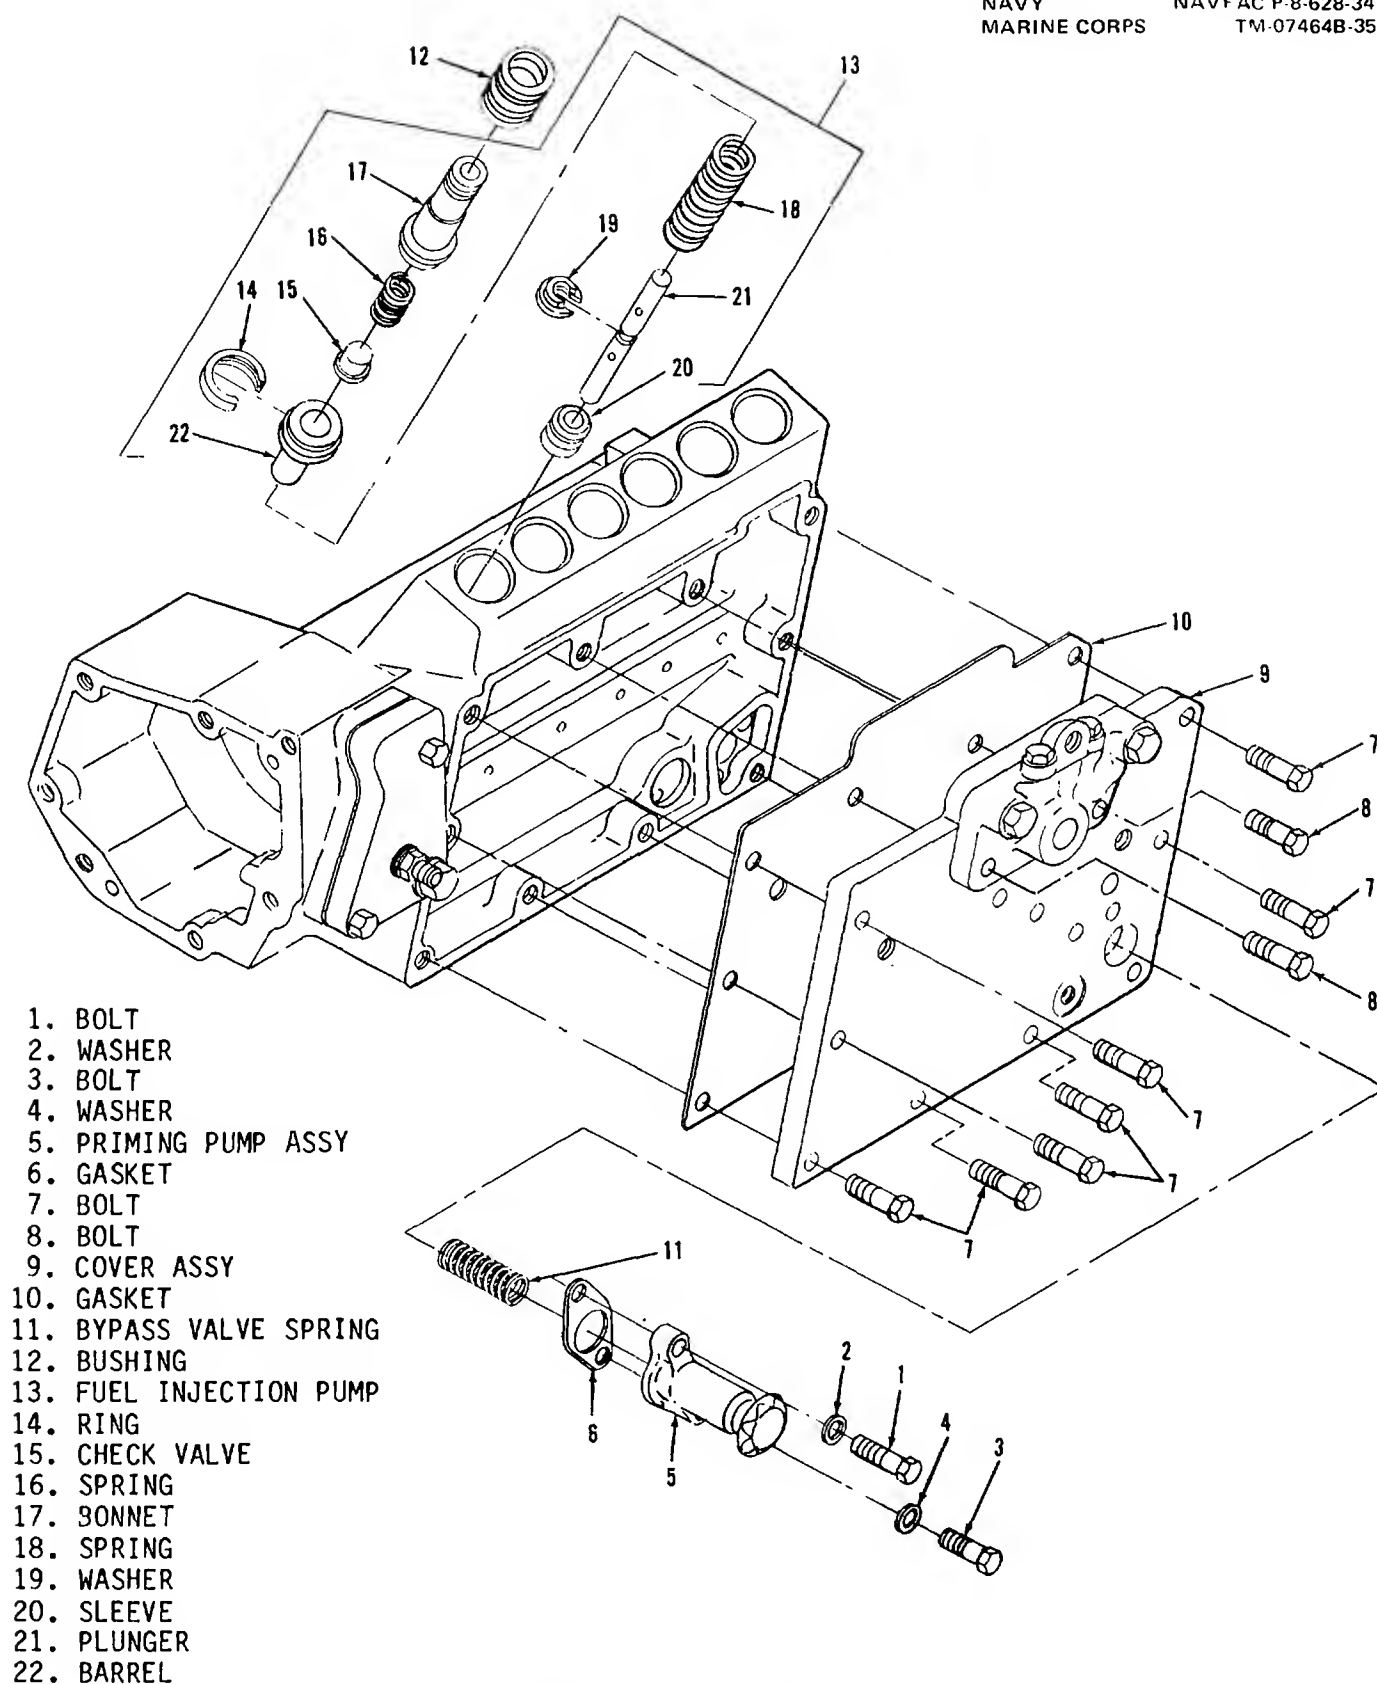
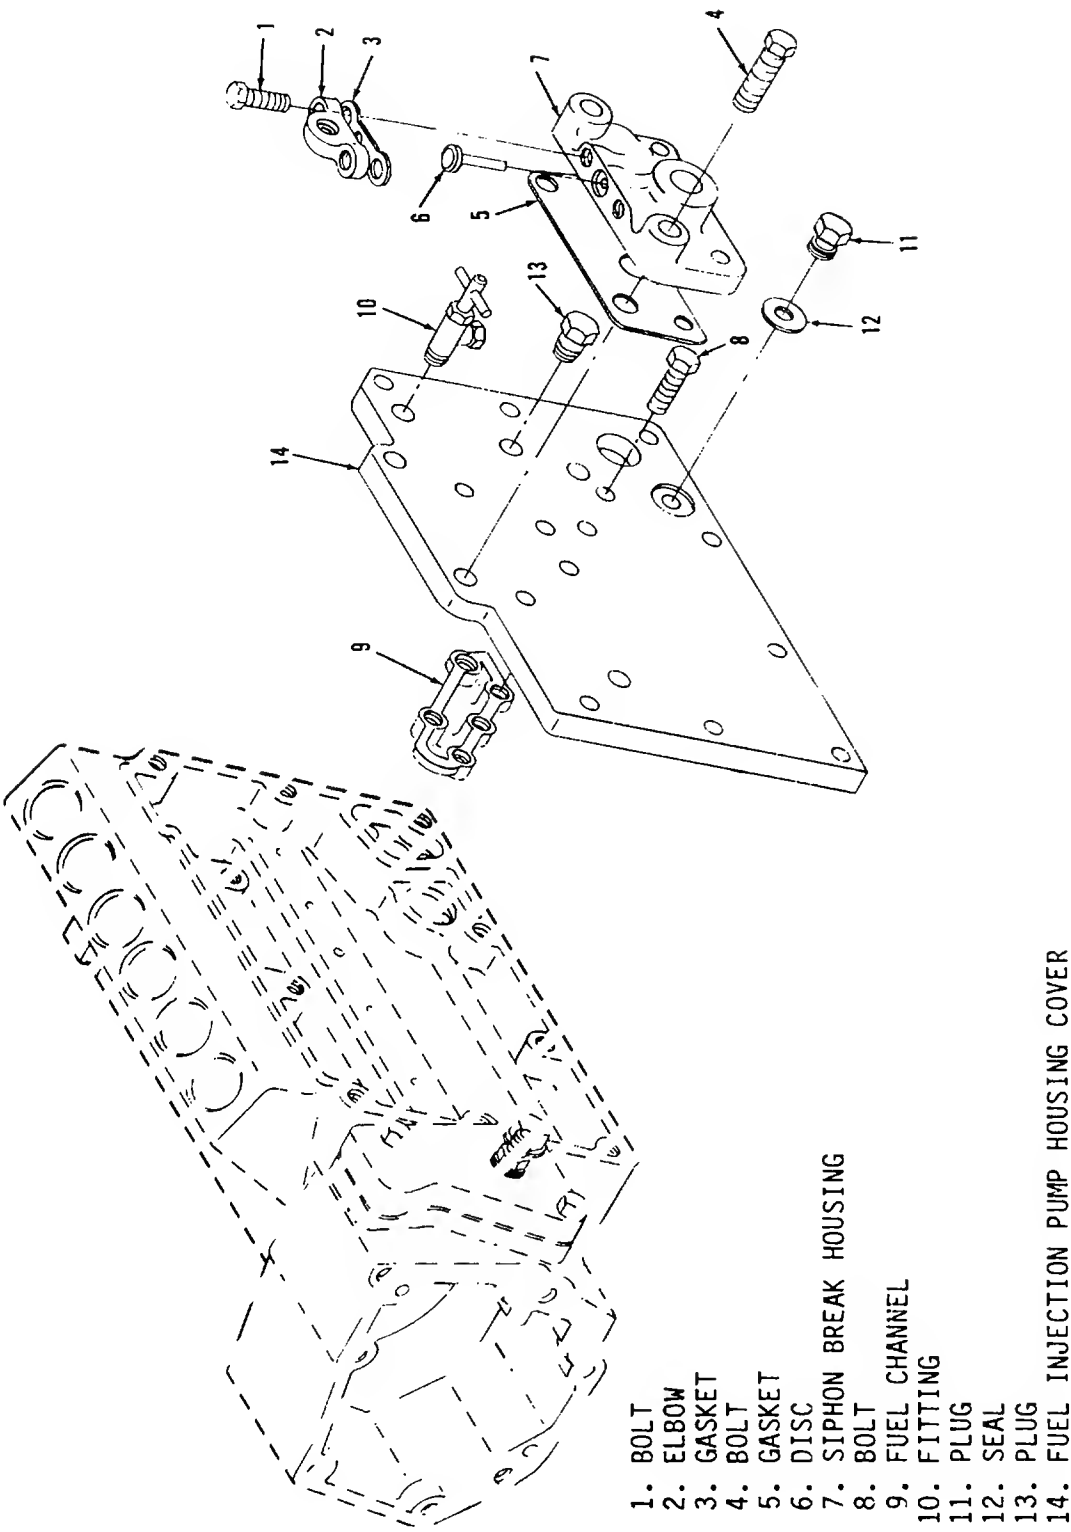
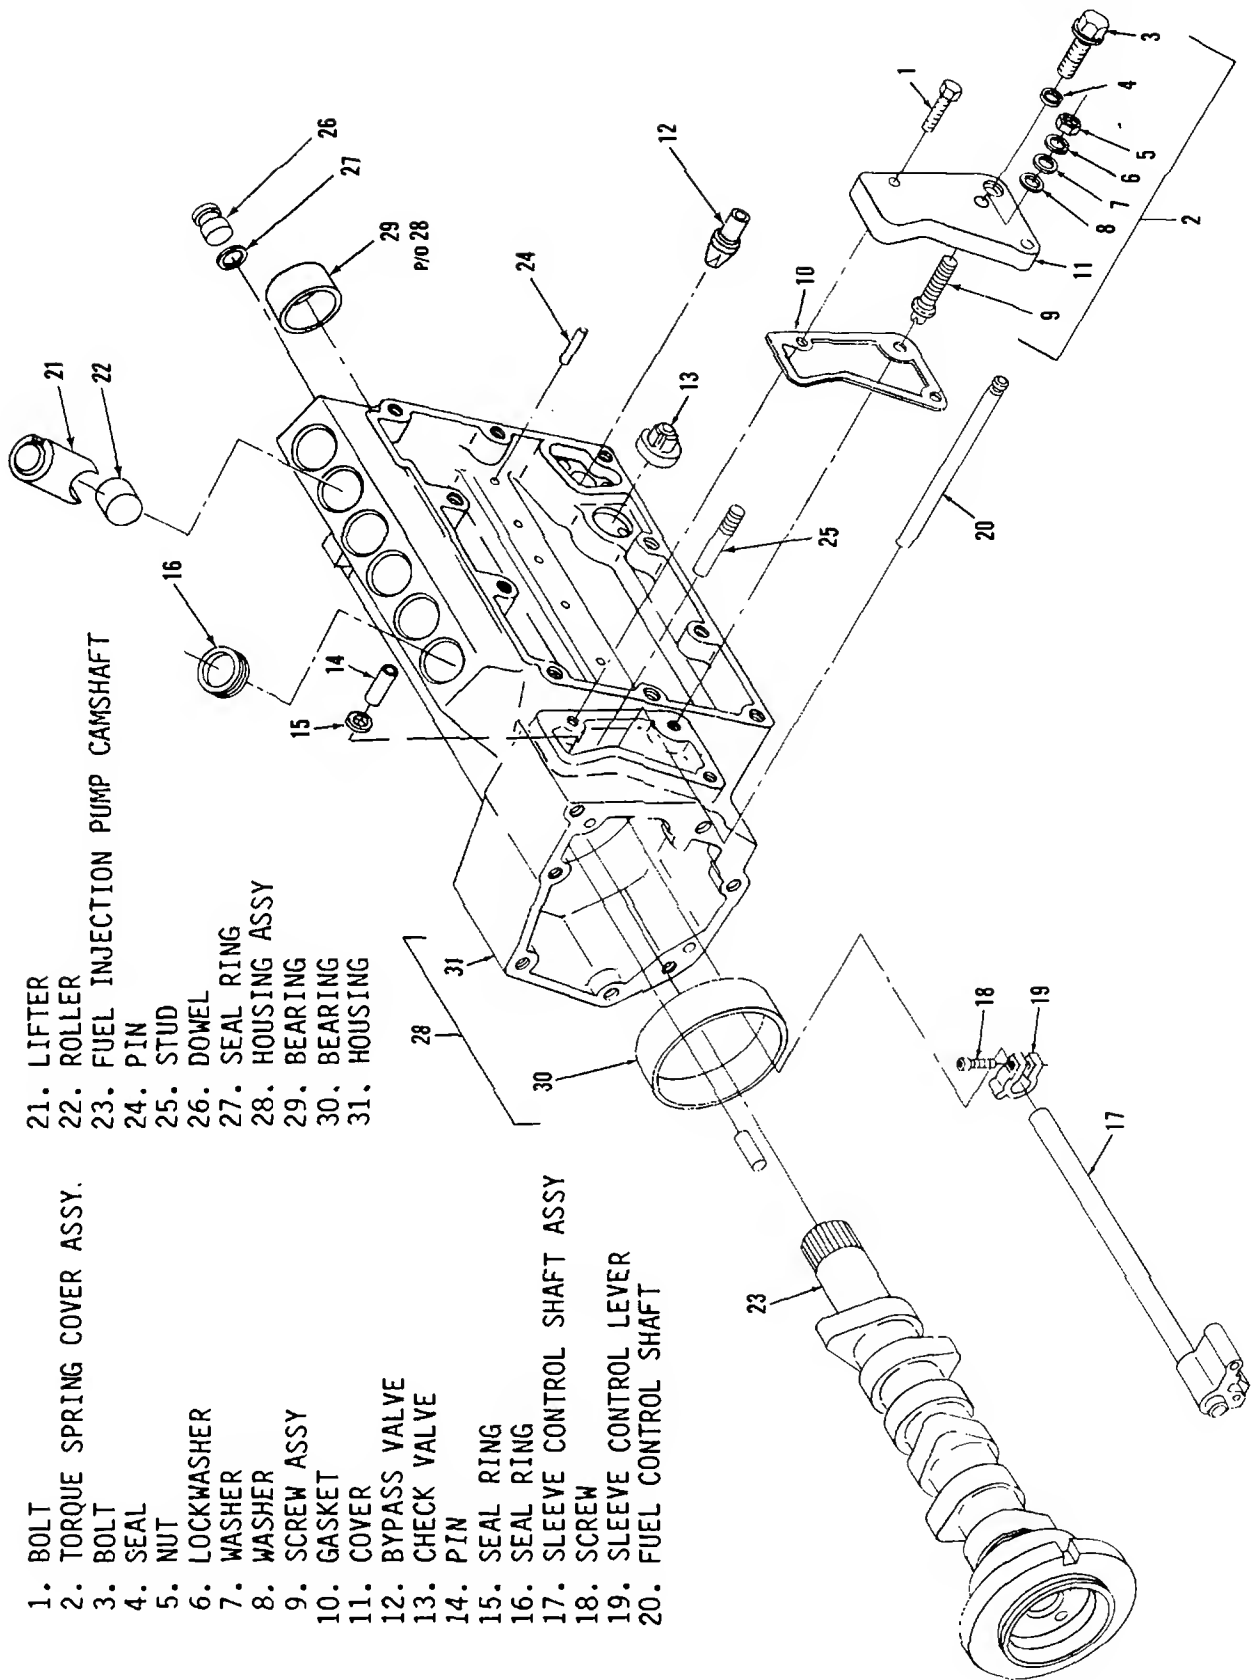

Figure 7-4. Removal and Disassembly of Fuel Injection Pumps
Figure 7-6. Fuel Injection Pump Housing Cover, Disassembly and Assembly
Figure 7-7. Fuel Injection Pump Housing, Disassembly and Assembly
a. Remove bolts (1 and 3, figure 7-4) and washers (2 and 4) to remove priming pump assembly (5) and gasket (6).
c. Remove cover assembly (9) and gasket (10).
d. Remove bypass valve spring (11).
d. Disassemble cover assembly (9, figure 7-4) as follows (see figure 7-6):
(1) Remove bolts (1), elbow (2), gasket (3), and gasket (5).
(2) Remove bolts (4) which secure the siphon break housing (7). Remove the gasket (5) from the housing (7).
(3) Remove bolts (8) to remove fuel channel (9).
(4) Remove fitting (10), plug (11), seal (12), and plug (13) from the fuel injection pump housing cover (14).
e. Refer to figure 7-7 and remove bolts (1) to remove torque spring cover assembly (2).
f. Remove bolt (3) and seal (4).
g. Remove nut (5), lockwasher (6), washers (7 and 8), screw assembly (9), and gasket (10) from torque spring cover (11).
h. Remove bypass valve (12) and check valve (13).
i. Remove pin (14) and seal rings (15 and 16).
j. Remove shaft (20).
k. Loosen screws (18) to free the levers (19) from the sleeve control shaft assembly (17). Remove sleeve control shaft assembly (17).
l. Remove screws (18) and levers (19).
- e. Install rollers (22) and lifters (21) into respective bores in housing assembly (28). Ensure that grooves in lifters align with pins (24) in housing assembly (28). Support camshaft (23) to prevent damage to pins (24) and bearings (29 and 30).
- f. Put sleeve control shaft assembly (17) into housing assembly (28). Position levers (19) on shaft (17) and secure with screws (18). Push sleeve control shaft assembly (17) into position.
- g. Install shaft (20). Torque screws (18) to 2 +/-0.16 foot-pounds (2.70 +/-0.22 Newton-meters).
- h. Install seal rings (16 and 15) and pin (14).
- i. Install check valve (13) and bypass valve (12).
- j. Install screw assembly (9) into torque spring cover (11) and secure using washers (7 and 8), lockwasher (6), and nut (5).
- k. Install seal (4) and bolt (3) into torque spring cover (11).
- l. Install torque spring cover assembly (2) and gasket (10) using bolts (1).
- m. Assemble cover assembly as follows (see figure 7-6):
- (1) Install plug (13), seal (12), plug (11), and fitting (10) onto fuel injection pump housing cover (14).
- (2) Install fuel channel (9) using bolts (8).
- (3) Install gasket (5) onto siphon break housing (7). Attach housing (7) to cover (14) using bolts (4).
- (4) Install disc (6), gasket (3), and elbow (2) using bolts (1).
- n. Adjust sleeve control shaft assembly (17, figure 7-7) in accordance with paragraph 7-16.